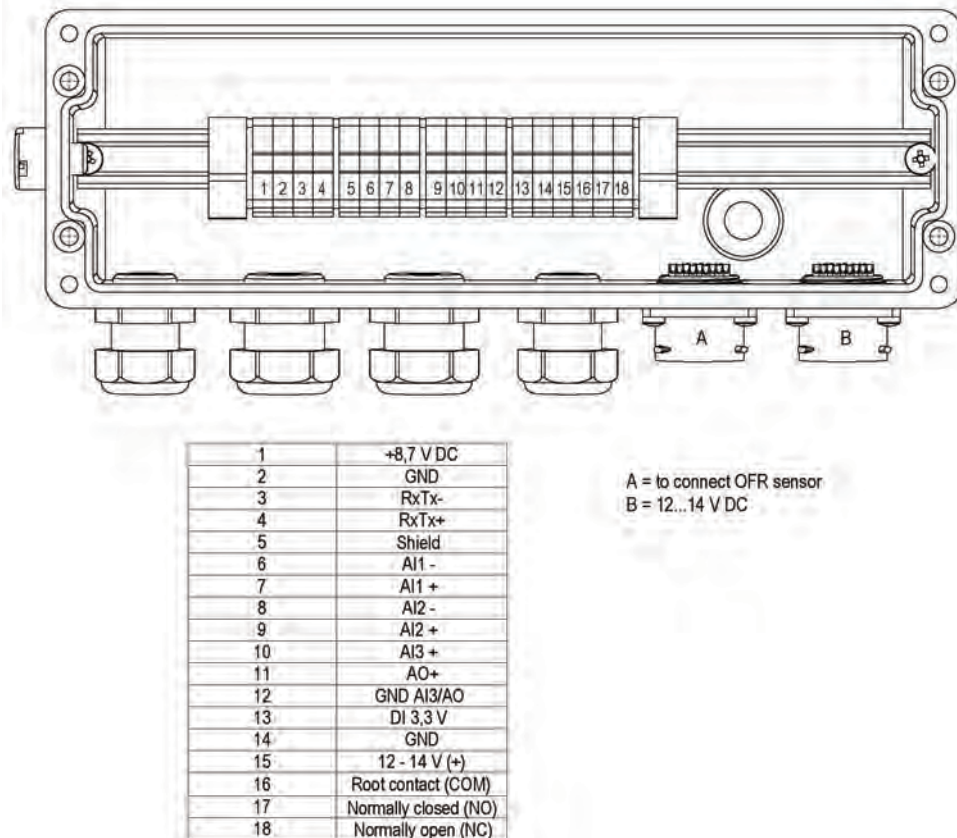

Fig. 27-2 Connector box terminal wiring
4. Connect the sensors to the connector box. See terminal wiring diagram (Fig. 27-2).